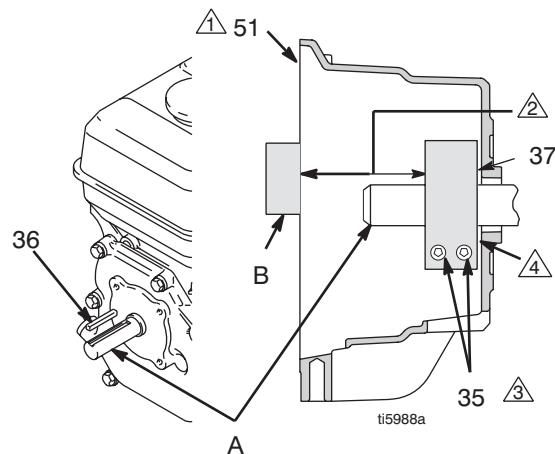

FIG. 9
4. FIG. 9. Loosen two screws (35) on clamp (37),
5. Push screwdriver into slot in clamp (37) and remove clamp.
1. FIG. 9 Install engine shaft key (36)
2. Tap clamp (37) onto engine shaft (A). Maintain dimension shown note 2. Chamfer must face engine.
3. Check dimension: Place rigid, straight steel bar (B) across face of clutch housing (51). Use accurate measuring device to measure distance between bar and face of clamp. Adjust clamp as necessary. Torque two screws (35) to 125 ± 10 in-lb (14 ± 1.1 N-m)
4. Install armature (38) on engine drive shaft.
5. Install four screws (35) and lock washers (34) with torque of 125 in-lb.